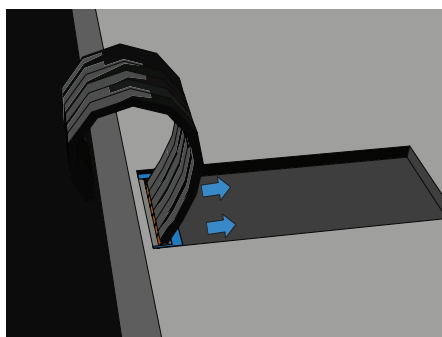

Fig.16
4. Gently slide the FPC ribbon cable out of the connector socket. (See Fig.16)